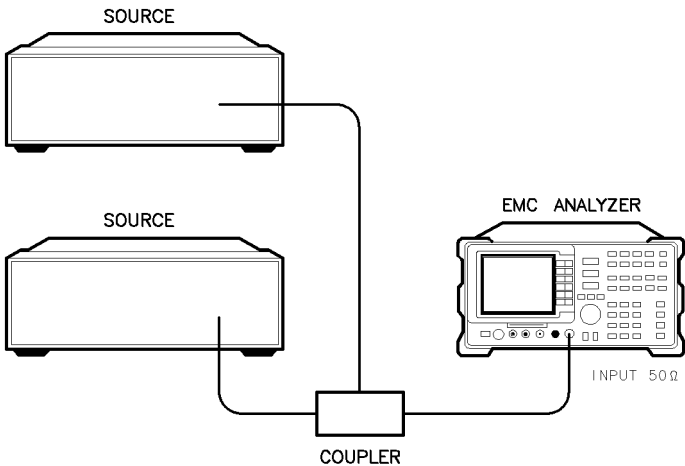

Figure 7-11. Setup for obtaining two signals.
- 1. Obtain two signals with a 100 kHz separation by connecting two signal sources to the analyzer input as shown in Figure 7-11.